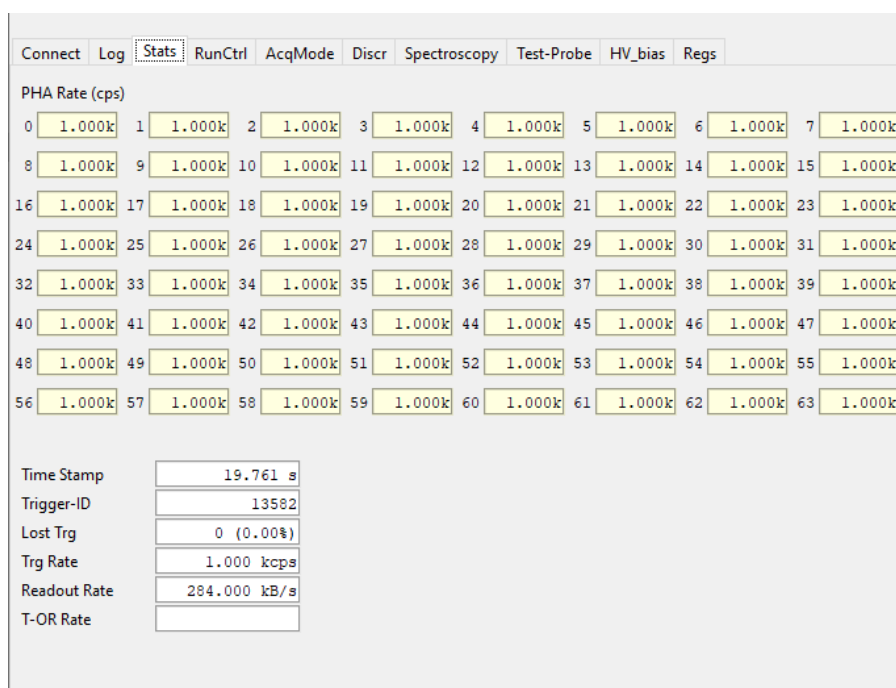

Fig. 10.26: The Stats tab of the Janus software GUI.
- By selecting "PHA Rate" for the "Statistics Type" parameter of the Janus Command bar, the values of the frequency at which each channel pulse height values are sampled and converted can be visualized. The values are displayed in the "Statistics" window of the Janus software together with other information regarding the ongoing acquisition run (see Fig. 10.26). By selecting "PHA Cnt", the trigger counted since the start of the acquisition are displayed.